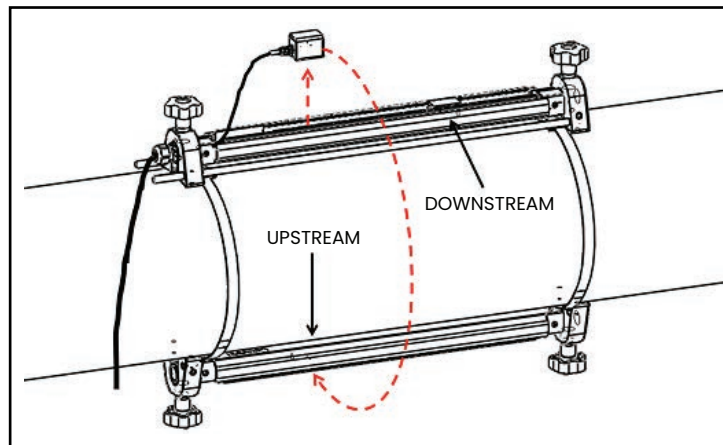

Figure 20: Relocate the upstream transducer
- b. Remove the upstream transducer from the first fixture (see figure 20 below). Disconnect the transducer cable and route the cable into the second fixture.